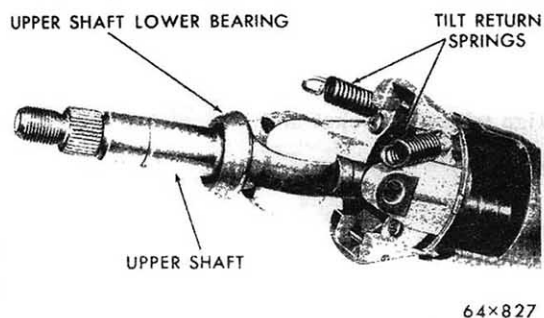

Fig. 27 - Removing or Installing the Steering Shaft Assembly
- (14) Remove the upper steering shaft with lower bearing out of the steering column, (Fig. 27). Remove the lower bearing from the shaft and the return springs from the actuator support. Note position of the springs.
- (3) Install the upper steering shaft and lower bearing as shown in Figure 27.
- (4) Install the lower ends of the two return springs on the support spring anchors, (Fig. 27).